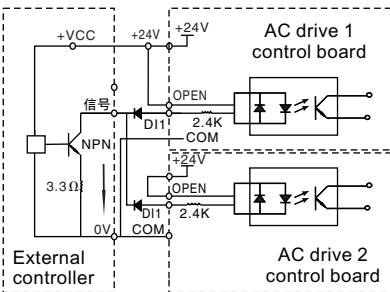

Figure 3-22 DI terminals connected in parallel in SINK mode
- In this In such wiring mode, the DI terminals of different AC drives cannot be connected in parallel. Otherwise, DI mal-function may result. If parallel connection (different AC drives) is required, connect a diode in series at the DI and the diode needs to satisfy the requirement:  $IF > 10mA$ ,  $UF < 1V$ . As shown in Figure 3-22.